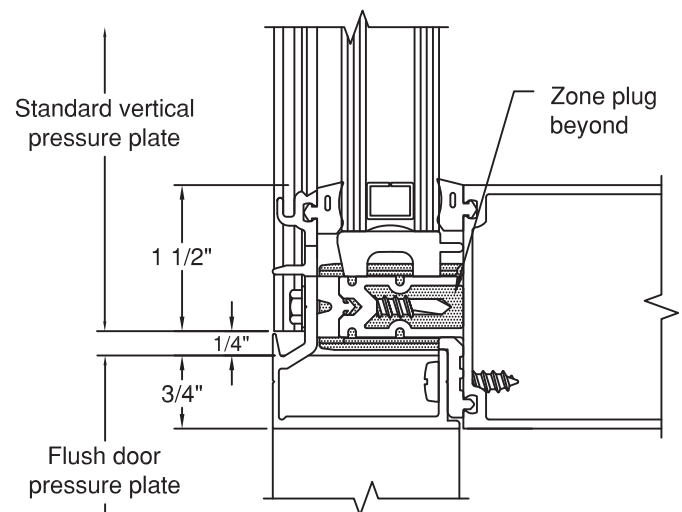
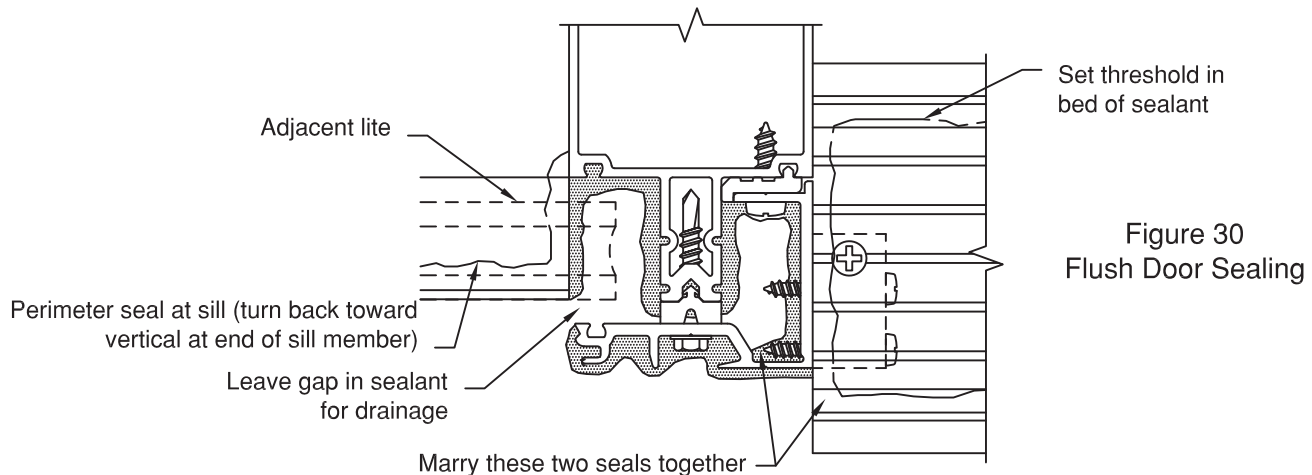

Figure 28
Figure 30
C.3.2 Attach TH-44 threshold clip to bottom of each vertical pressure plate with two (2) FS-256 #8 x 1 1/2" Phillips Round Head screws.
C.3.3 Complete the glazing adjacent to the door frame, installing the flush door pressure plates per standard procedures previously outlined. Bed vertical pressure plates in sealant at sill and attach through access holes to mullion with FS-43 #12 x 3/4" Phillips Pan Head screw 1 1/2" from each end and 12" O.C. **SEE FIGURE 28 and FIGURE 30.**
C.3.5 Bed threshold in sealant, attaching to TH-44 clips with FS-42 #12 x 1/2" Phillips Flat Head screws. Marry threshold seal with subframe and main system seal. **SEE FIGURE 30.**